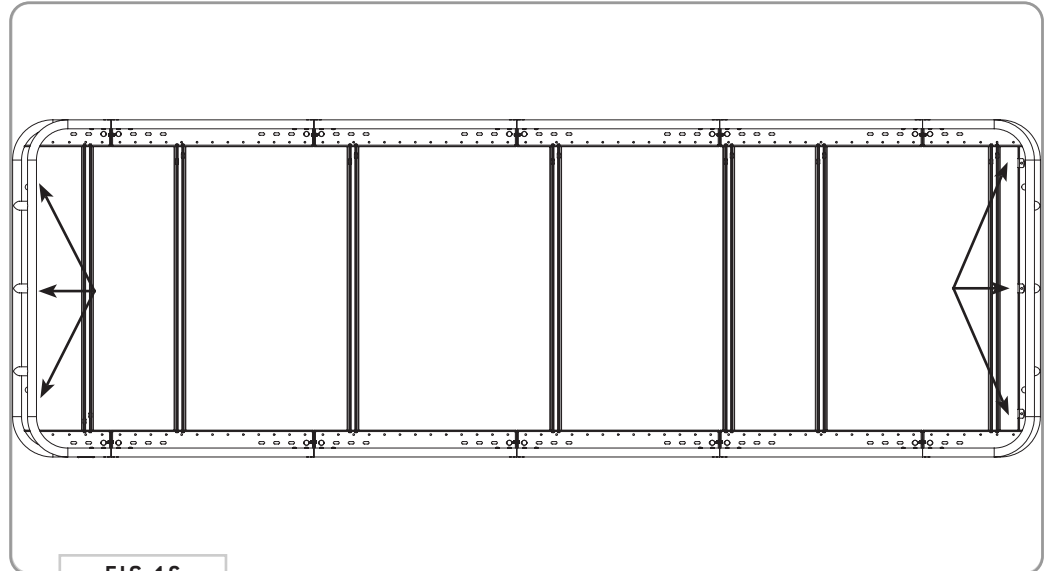

FIG 16
7.1 Attach Clip Nuts to Baskets: Install the **Clip Nuts** to the **Front and Rear Basket** locations as shown in **FIG 16**.